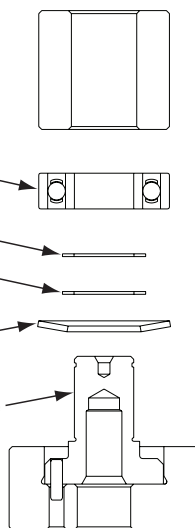

Figure 3
Spindle using the T-2B Spindle Bearing Pressing Tool Top as shown in Figure 3.
4. Snap the Retaining Ring (not shown in Figure 3 or 4) onto the Spindle Assembly making sure it is completely snapped into the groove.